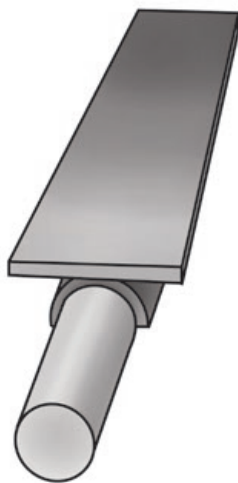
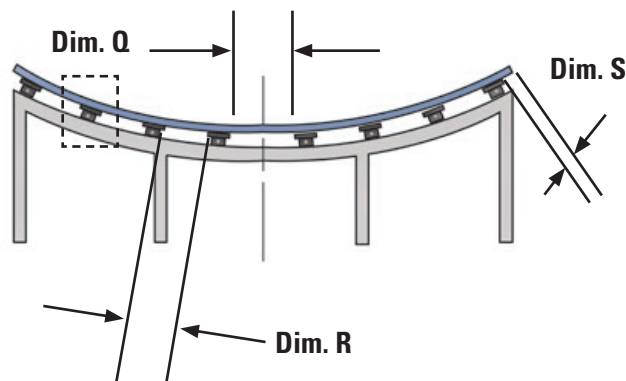

Figure 24
Figure 25
- Rail faces must be tangent or conform to trough shape to minimize belt abrasion. Figure 24 shows a support rail that pivots to conform to the trough shape. Figure 25 shows rail surfaces tangent to the troughing belt.
- Spacing, see Figure 25.